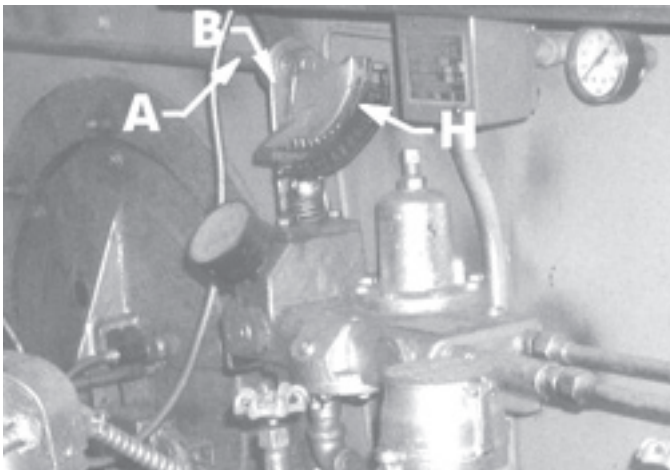
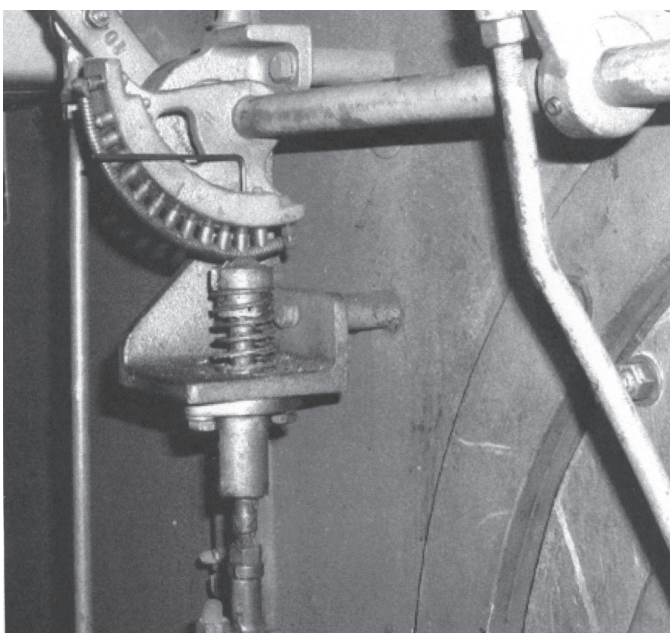
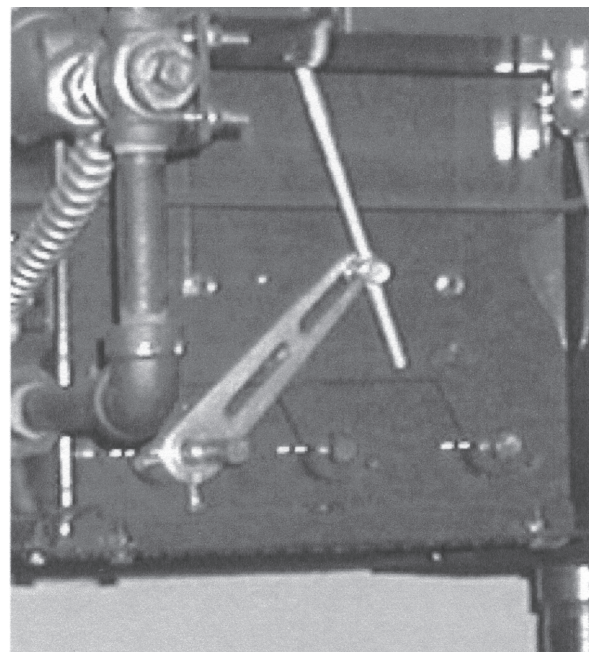

Figure 11-27. Link to oil valve
Figure 11-28. Link to gas valve
Figure 11-29. Link to fan damper
The jackshaft is connected by additional linkage to the fuel valves, Figure 11-27 shows the extension of the shaft (A), an end bearing (B) and the cam (H) that directly positions the fuel oil flow control valve. On this particular boiler the cam for the gas valve is used to change the stroke of the linkage (Figure 11-28) for gas. Figure 11-29 shows another arrangement controlling a damper for air flow.
After establishing linearity, tuning consists of positioning the controls at each screw on the fuel valve (Figure 11-27 or 11-28) then adjusting the screw to increase or decrease actual fuel flow at that position until the desired air to fuel ratio is established.